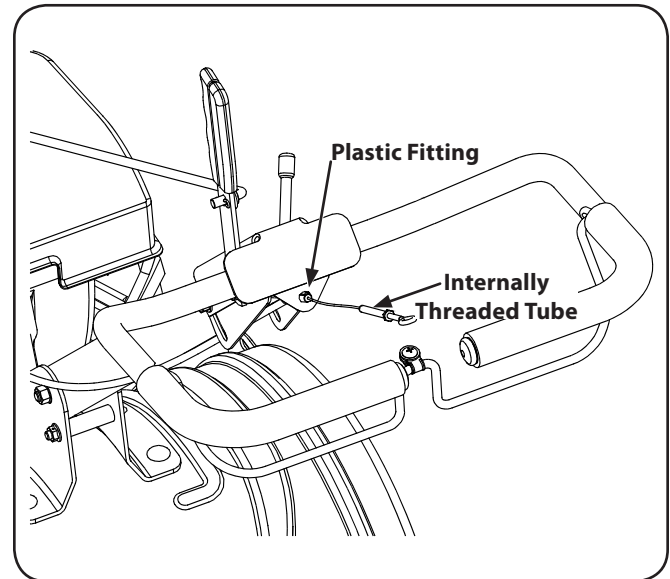

Figure 1-4
3. Push the cable through the hole in the center of the handle and snap into the plastic fitting. See Figure 1-4.